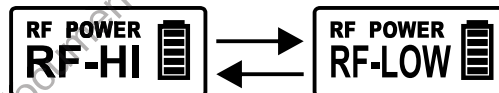

Fig. 22
(B) RF POWER Setting. Fig. 22: